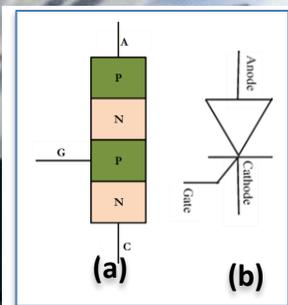
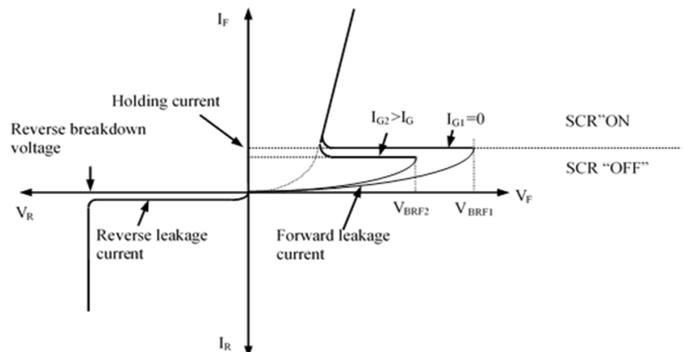

Figure 2.12:
Figure 2.13: Characteristic of SCR
SCR is also known as thyristor and it made up with four-layer of semiconductor materials. It has three terminal anode (A), cathode (C), and gate (G). The gate terminal is used to control the operation of SCR. SCR is widely used as a switching element in power control application. Figure 2.x (a) shows the semiconductor layer of SCR and Figure 2.12 (b) shows the symbol of SCR. Figure 2.13 shows the I-V characteristic of SCR. It has similar characteristic as diode, only allows current to flow in one direction. In general, the characteristic of SCR can be divided into two regions: 1) Forward blocking state, 2) Transition state, and 3) ON state.